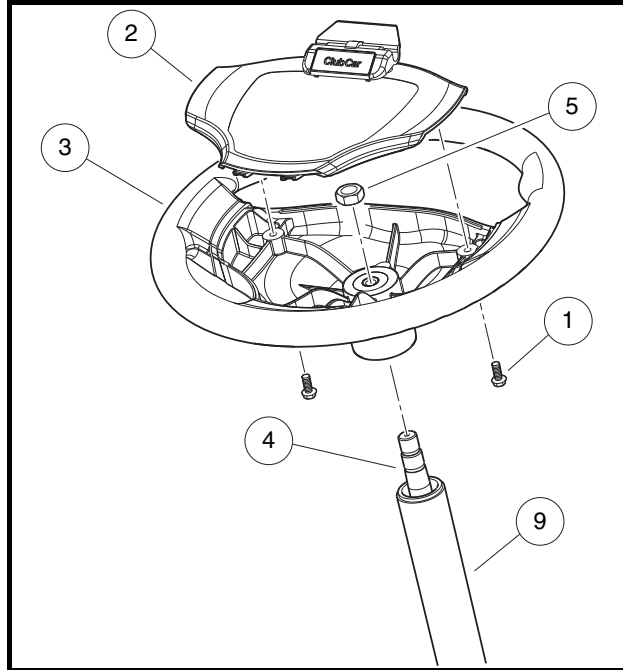

Figure 7-1 Steering Wheel Removal
2. Remove the two mounting screws (1) and plate (2) (**Figure 7-1, Page 7-2**).
3. Match mark the steering wheel (3) and steering column shaft (4) so when the steering wheel is removed it can be placed back in exactly the same position on steering column shaft.
4. Loosen the steering wheel nut (5) and back it off approximately 1/4 inch (6 mm). Do not remove the nut.
- 5.6. Remove the steering wheel nut (5) and the steering wheel (3) from the steering column (9) (**Figure 7-1, Page 7-2**).
1. Install the steering wheel (3) on the splines of the steering shaft (4). Be sure to align the match marks placed on the wheel and steering column shaft in step 3 above (**Figure 7-1, Page 7-2**).
2. Install the steering wheel nut (5) and tighten to 156 in-lb (17.6 N·m).
3. Install the plate (2) and screws (1). Tighten screws to 16 in-lb (1.8 N·m).